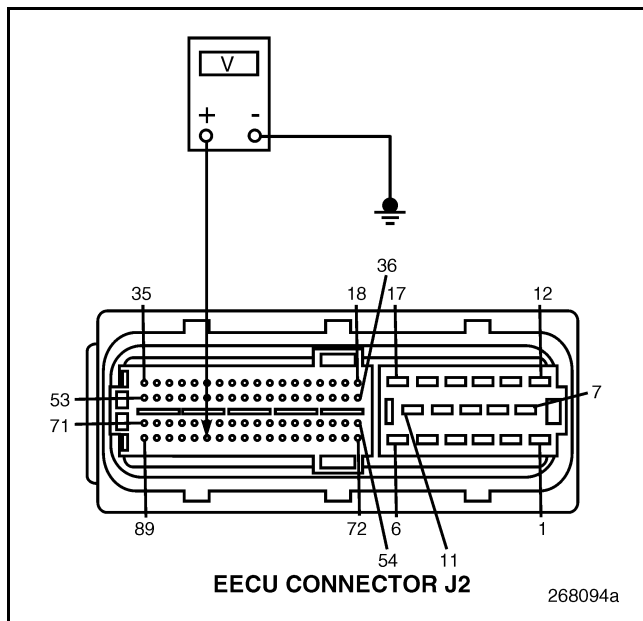

Figure 806
5. Measure the voltage from EECU harness connector J2 pin 84 to a good ground (see Figure 806).